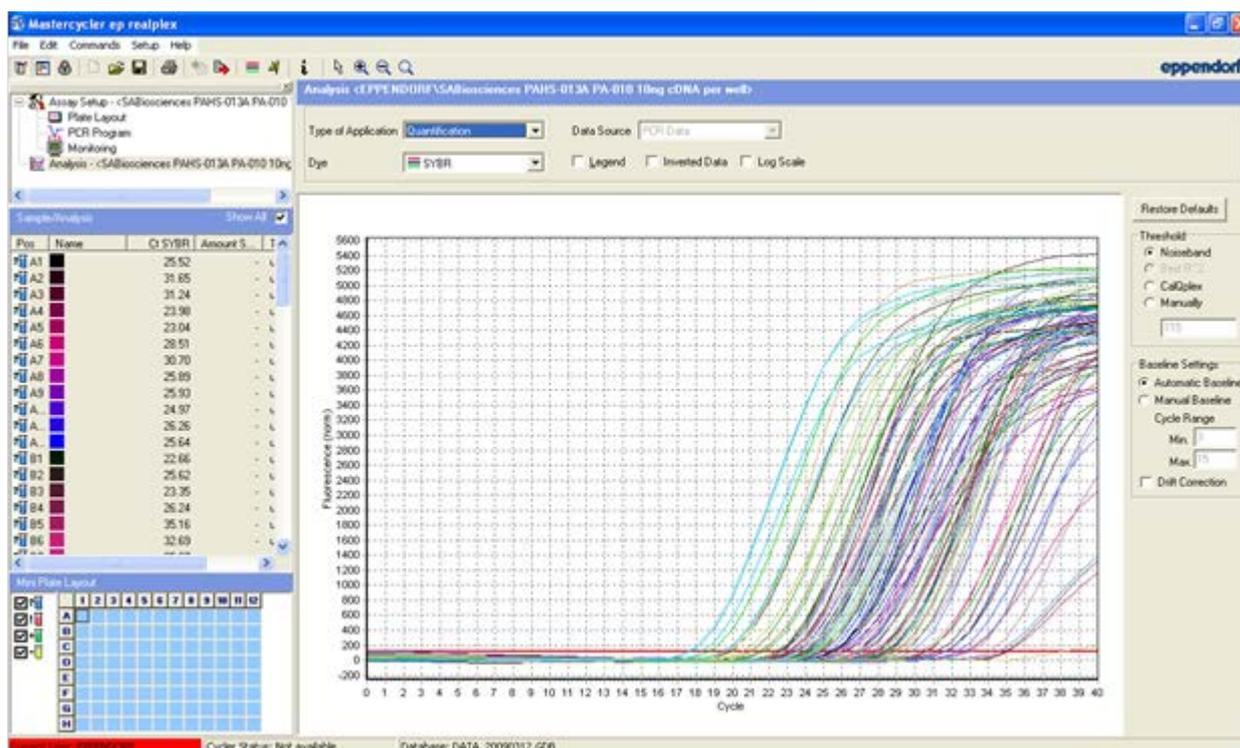

Figure 12. "Quantification Analysis" window.
3. Select "Quantification" (Figure 12) as the type of application to obtain C_T values. Numerical values are listed in the "Sample/Analysis" window to the left of the screen while amplification curves are shown in the main work area as a function of fluorescence and cycle number. As a default, the curves are shown in linear scale; to view the curves in log scale, check the "Log Scale" box in the top panel. Click on the  button to save the file with results.